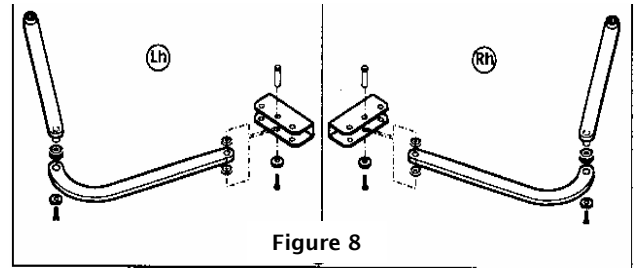

Figure 8
- \* Assemble the articulated arm and front mounting bracket as shown in figure 8.
Figure 8 shows how to assemble the articulated arm and front bracket.